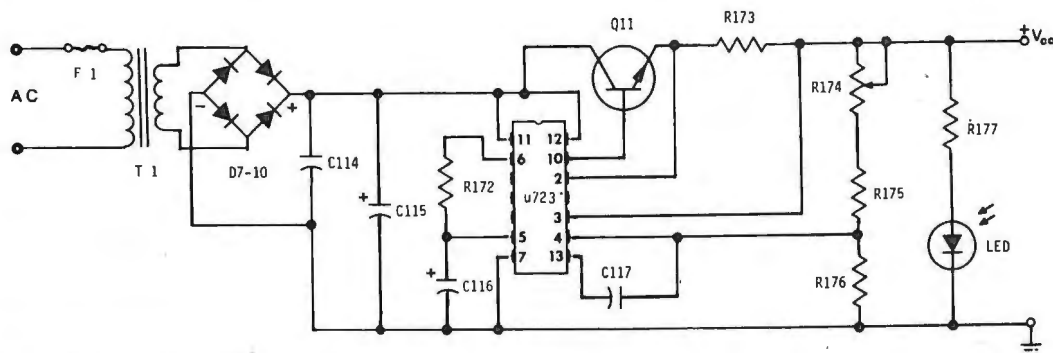

Fig. 3. Schematic of the power supply. Components are given in Parts List for Fig. 1.
**Construction.** Although any type of construction can be used, the complexity of the circuit can be greatly reduced by using the single-sided foil pattern shown in Fig. 2, which also shows the component installation. Because of the board density, most of the resistors are mounted vertically. Sockets should be used for the IC's. A low-power soldering iron (25 watts) with small-gauge rosin-core solder is used to mount the components. Check the polarities of semiconductors and electrolytic capacitors. After component installation, look the board over for accidental shorts between the closely spaced copper traces. Note that a well-regulated power supply (Fig. 3) using an IC regulator and series pass transistor (with slip-on heat sink) has been incorporated on the board and the +VCC is connected to the main portion of the board via a small jumper (J1). Do not connect this jumper at this time.